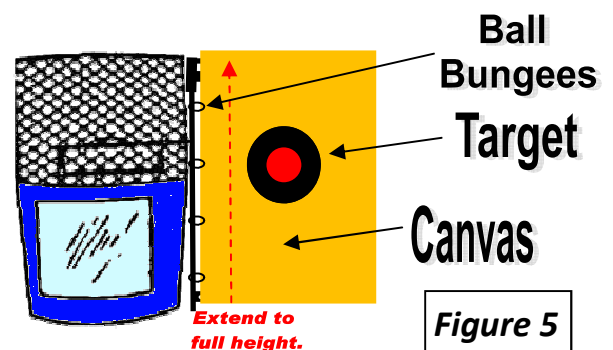

Figure 5
5. Extend top canvas bar to full height, and use the ball bungees to secure canvas to the vertical bar. (See Figure 5.)